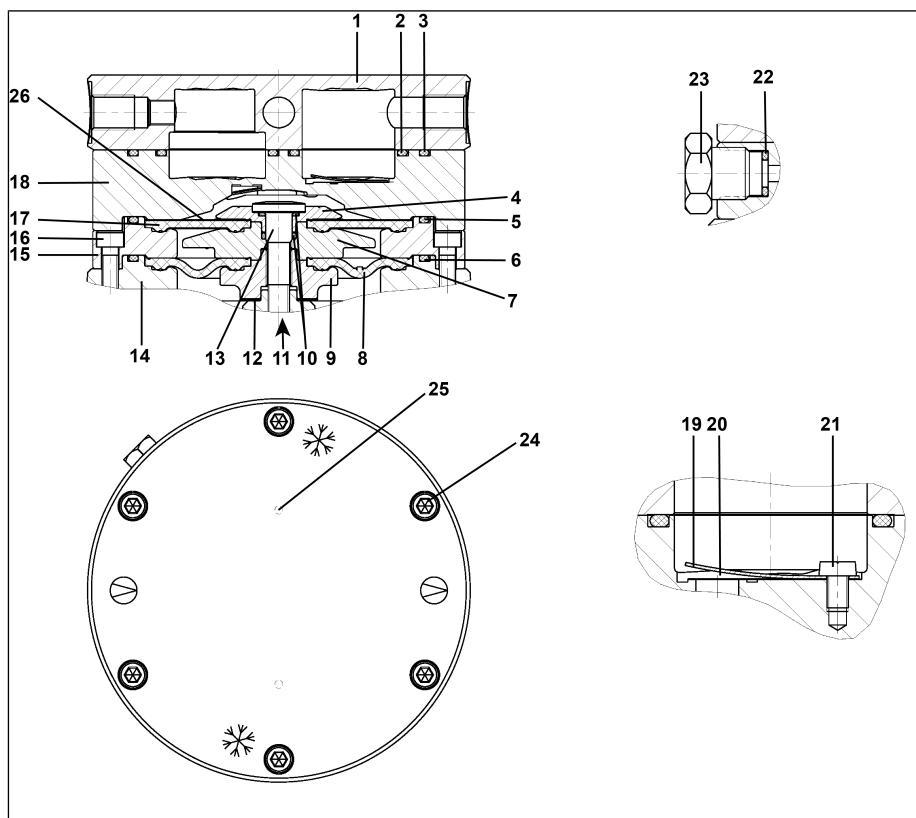

Fig. 16 Components of the pump head
**According to Fig. 16
i The following item numbers refer to Fig. 16 unless specified otherwise.